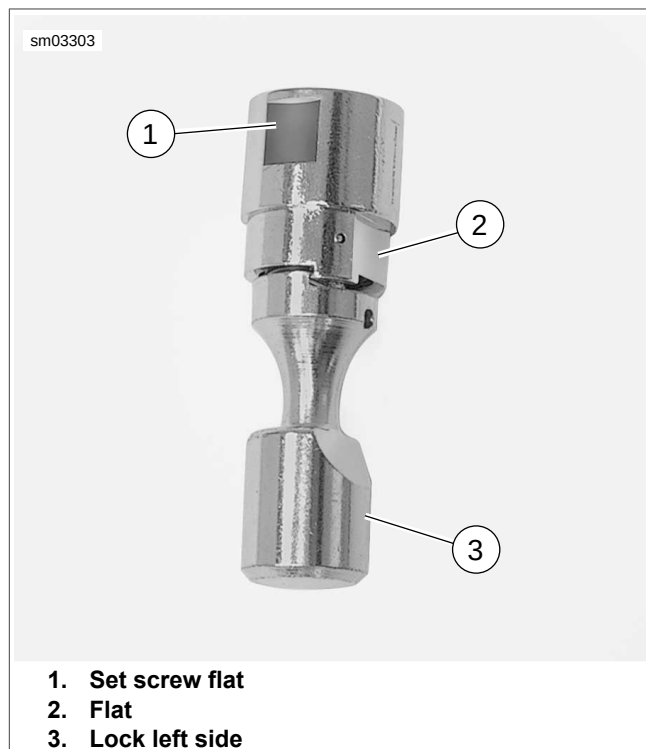

Figure 2-127. Fork Lock
- See Figure 2-127. There is a flat (1) in the bottom of the lock into which the set screw fits. This flat must be at the bottom when the lock is installed.
- When the lock is correctly installed, a forward-facing flat (2) on the lock will fit against a flat inside the external lock boss and the face of the lock will be flush with the face of the external boss.